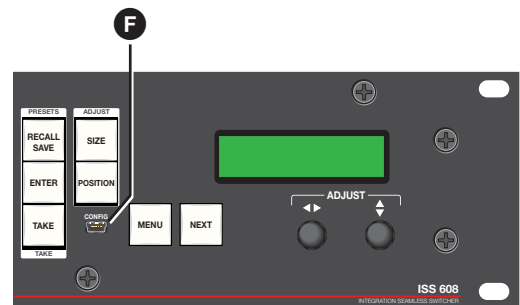
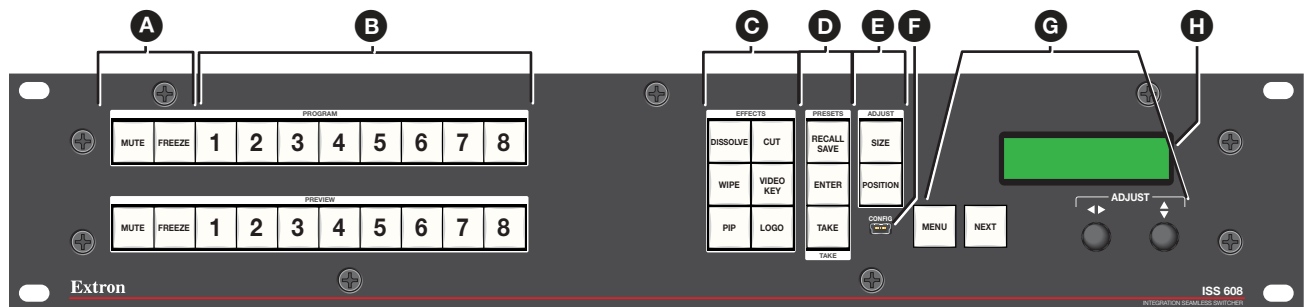

Figure 7. Front Panel Configuration Port
Figure 8. ISS 608 Front Panel
- F USB Configuration port** (see figure 7 or figure 8 on page 11) — This USB mini-B port serves the same serial communications function as the rear panel Remote port, but is easier to access than the rear port after the switcher has been installed and cabled.
All of the switcher controls and indicators, with the exception of the Reset button, are on the front panel (see figure 8). The 16 x 2 character LCD window indicates the switcher status, menu selections, the data rate, and the status of additional system features.
- C EFFECTS buttons** (see figure 8 on page 11) — Press one of these **EFFECTS** buttons to select the effect to use to transition between the Preview output to the Program output (see Effect Configuration Menu on page 20).